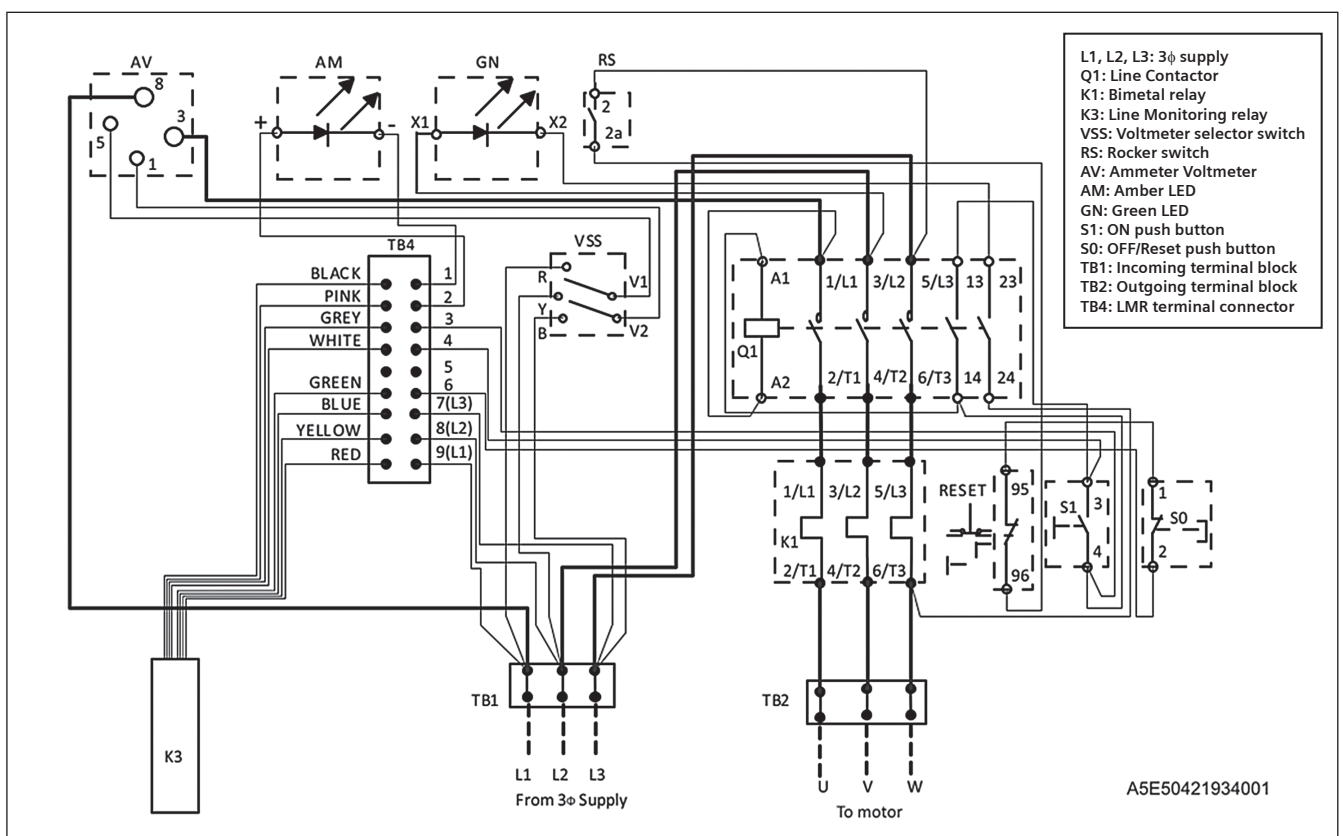

Fig. 4: Wiring Diagram
10. Re-connect all the disconnected wires and check connections by referring to the wiring diagram. (Fig.4)